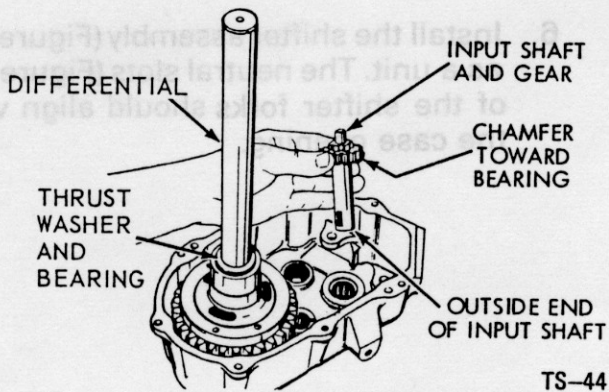

Figure 49 - Input Shaft and Gear
2. Install the input shaft and 16-T spur gear (Figure 49) into the case.
3. Place a 1/16" x 1" I.D. thrust washer, then a roller thrust bearing followed by a 1/16" x 1" I.D. thrust washer (Fig. 49) on the axle shaft.
4. Install the differential assembly (Figure 49) with the cap screw heads down into the case.